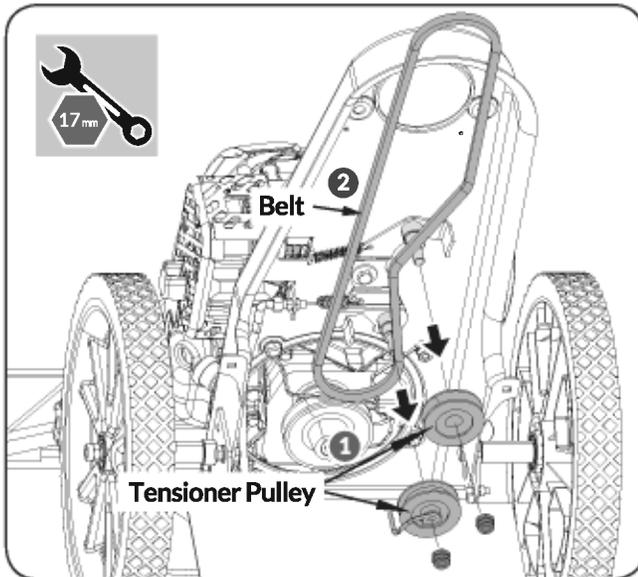

Figure 22
6. Use a 17mm wrench to remove the two M10 lock nuts fixing the two tensioner pulleys and remove the belt. (See **Figure 22**)